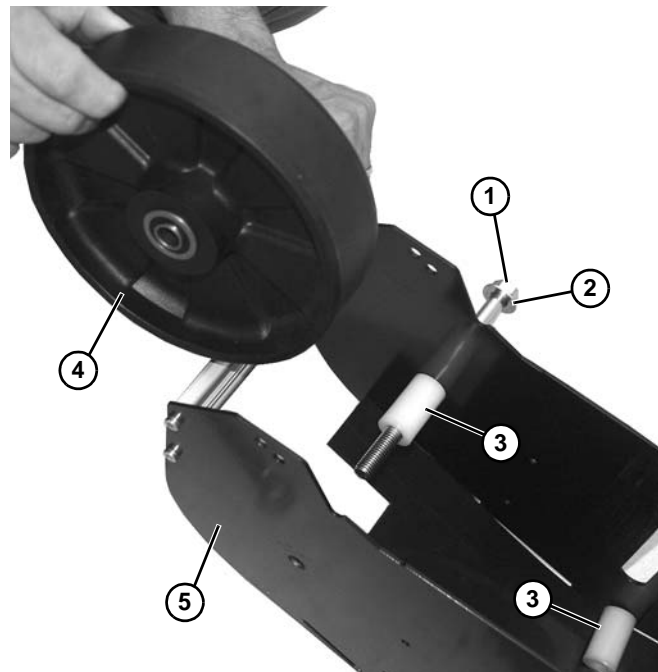

Figure 149
4. Remove bolt (Figure 149, item 1), washer (Figure 149, item 2), two spacers (Figure 149, item 3), and wheel (Figure 149, item 4) from take up assembly housing (Figure 149, item 5).